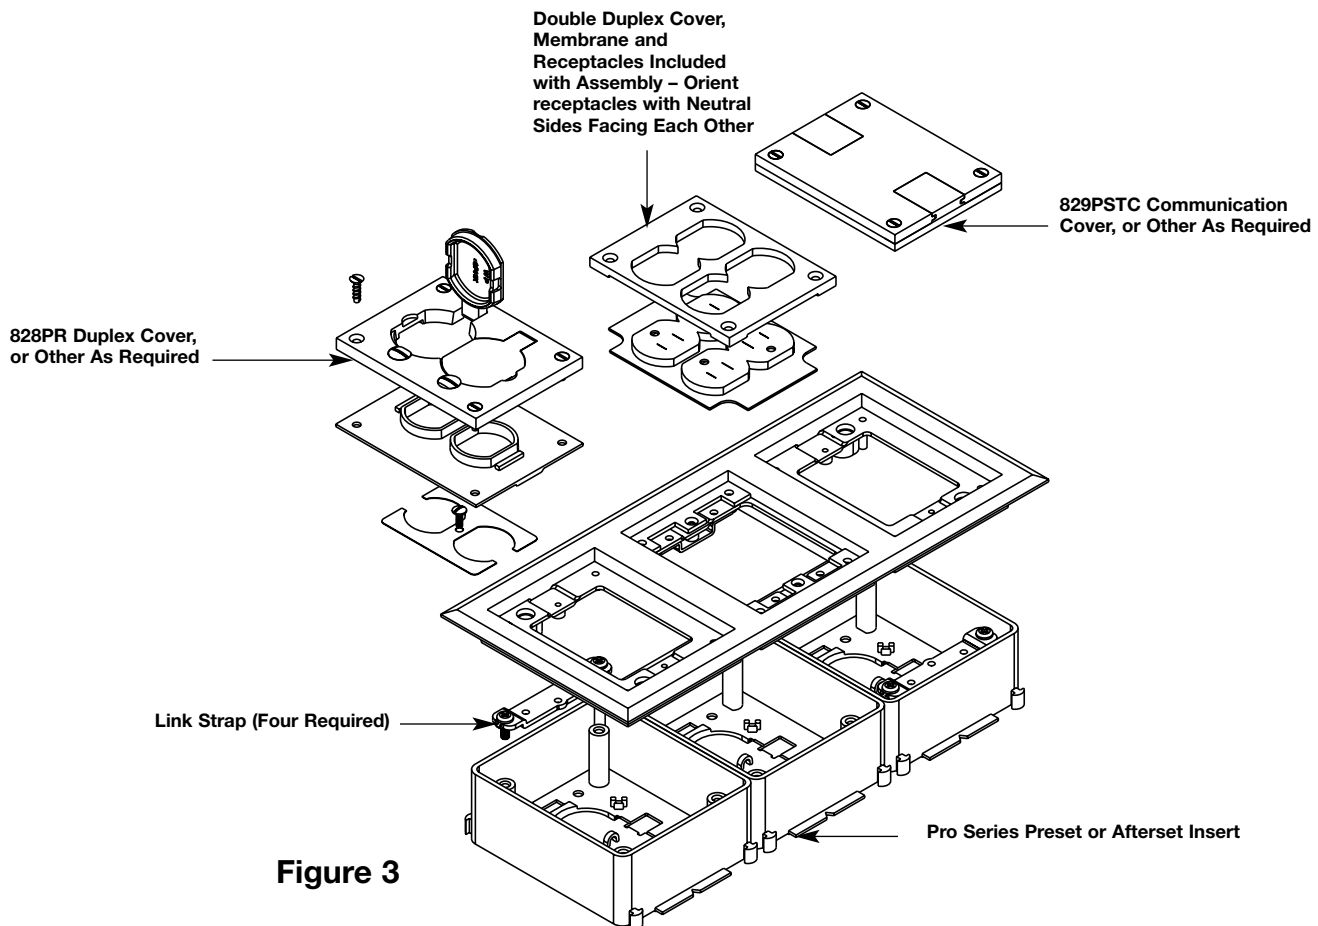

Figure 3
Step 5. Using hardware bag 97650A secure link straps to posts in preset. Position straps in outer presets for three-gang flange. None are used in center preset. Install two flathead screws in opposite corners to attach flange to link straps. Two lengths of screws are provided to accommodate variations in concrete pour depth (see Figure 3).